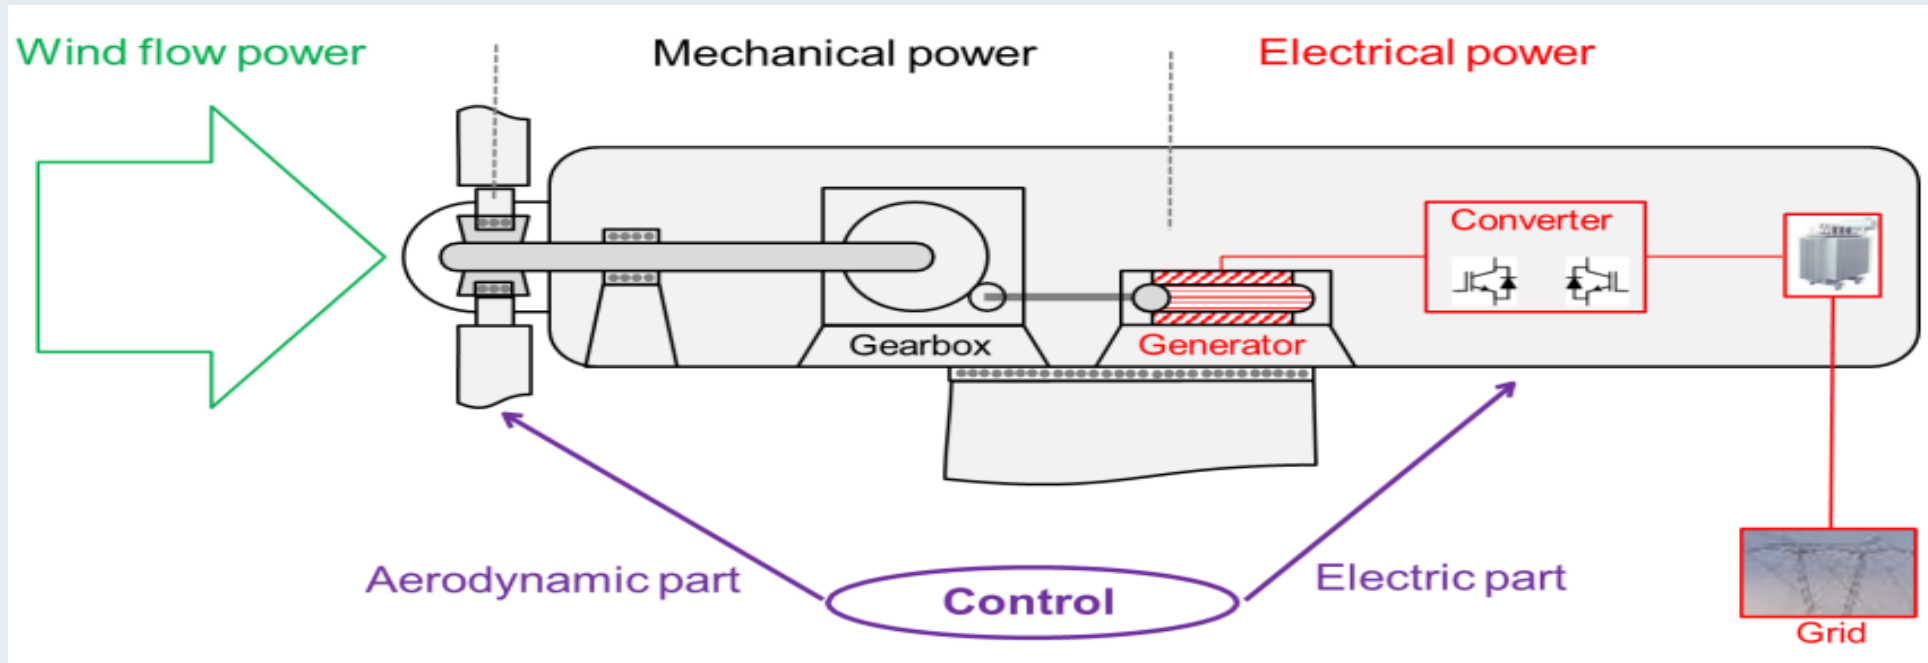

Figure 5. Wind power regulation system. Source: IEC
- As presented in Fig.5., the wind power regulation needs to control: